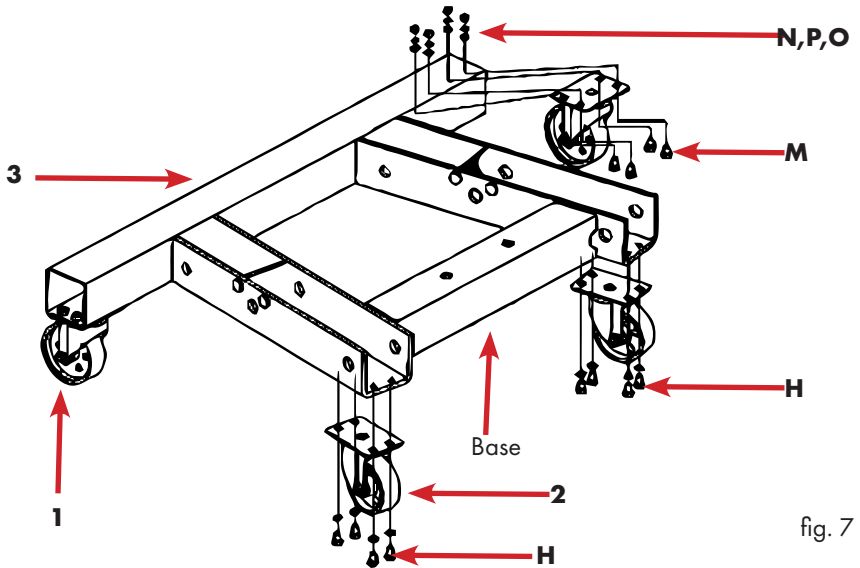

fig. 7
- Tighten all remaining nuts, fig. 7.